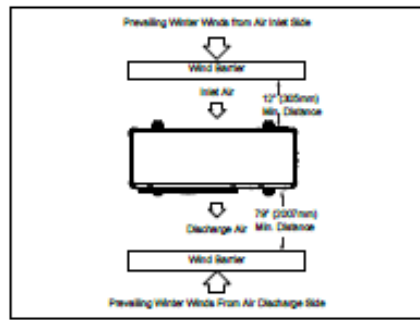

Figure 13. Wind Barrier
- When prevailing winds are from the air inlet side, then position the wind barrier a minimum of 12 inches (305 mm) from the unit as illustrated in “Figure 13. Wind Barrier”.
- When prevailing wind is into the discharge side, then position the wind barrier a minimum 79 inches (2007 mm) from the front of the unit as illustrated in “Figure 13. Wind Barrier”.